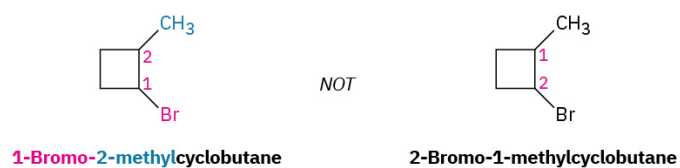

Figure 20.4i. Naming halogens like that of alkyl groups on a cyclobutane (credit: Organic Chemistry \(OpenStax\), CC BY-NC-SA 4.0)
- (b) If halogens are present, treat them just like alkyl groups as shown in Figure 20.4i.